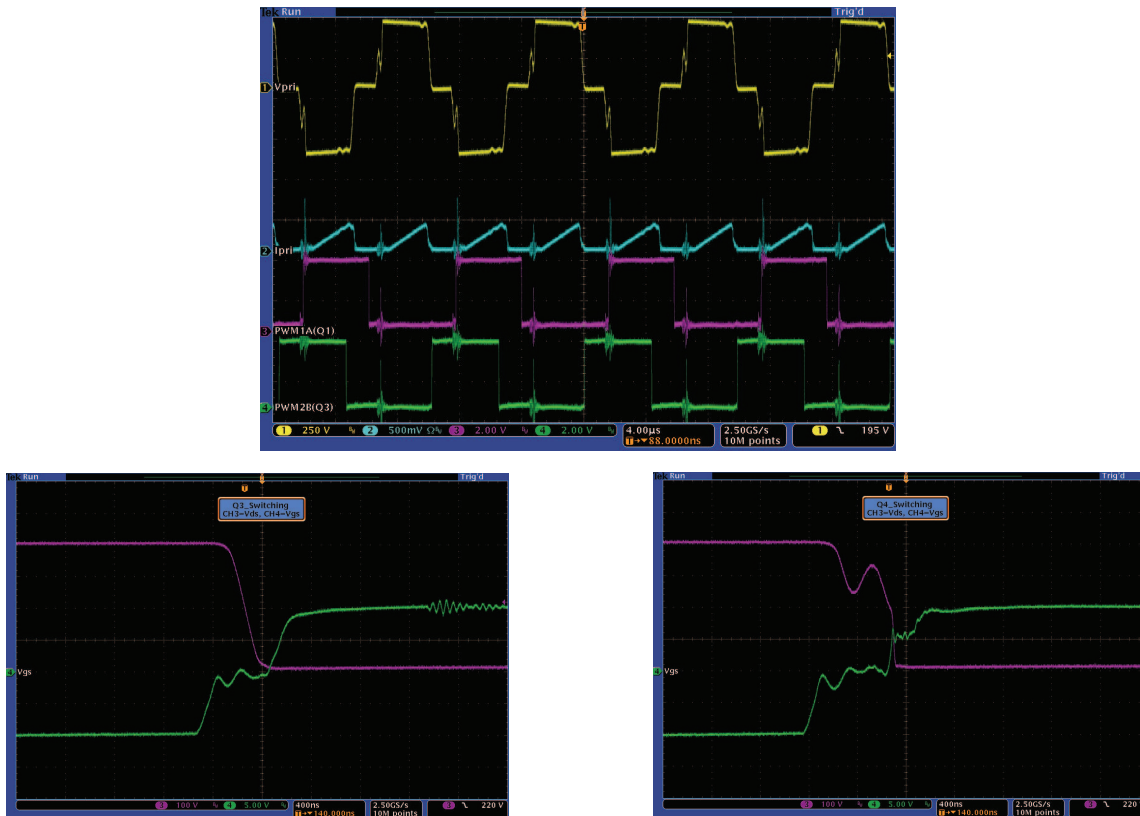

Figure 23. Transformer Primary Voltage, Primary Sensed Current and PWM Waveforms Driving Two Diagonally Opposite Switches (Q1 and Q3)
6. Figure 23 shows the transformer primary voltage, the primary sensed current, and PWM waveforms driving two diagonally opposite switches (Q1 and Q3) seen under conditions described above. ZVS switching of switch Q3 and LVS switching of switch Q4 are also shown under these conditions.